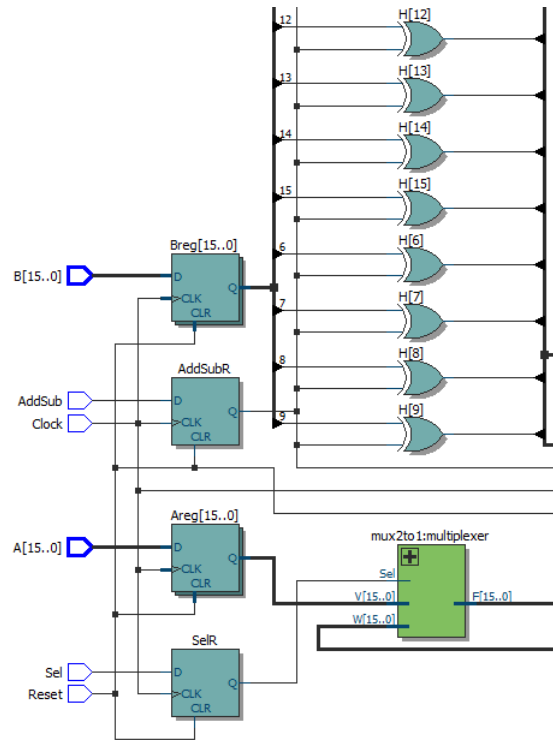

Figure 30: An enlarged view of the circuit.
2. Use the Zoom Tool, located in the toolbar, to enlarge the image and view the left portion of the circuit, as illustrated in Figure 30. Note that individual flip-flops are used for the *AddSub* and *Sel* signals. Sixteen-bit vectors *A* and *B* are denoted by heavy lines connected to the registers, *Areg* and *Breg*, which are indicated as heavily outlined flip-flop symbols. The *Zreg* register is drawn in the same manner as *Areg* and *Breg*.